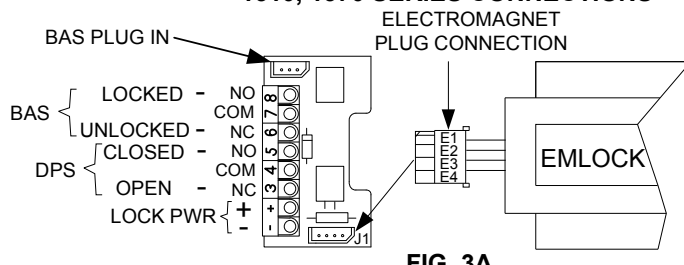

FIG. 3A
5. Make all Emlock terminal connections according to Figure 3A or 3B.
Open circuit in Emlock coil.	Check coil continuity with OHM meter. If reading is high or open, replace the magnet coil. See Fig. 3A and the Resistance Specifications.
Magnet coil short.	Coil shorts or incorrect wiring will blow fuses. Measure the coil for correct resistance. See Fig. 3A and the Resistance specifications.